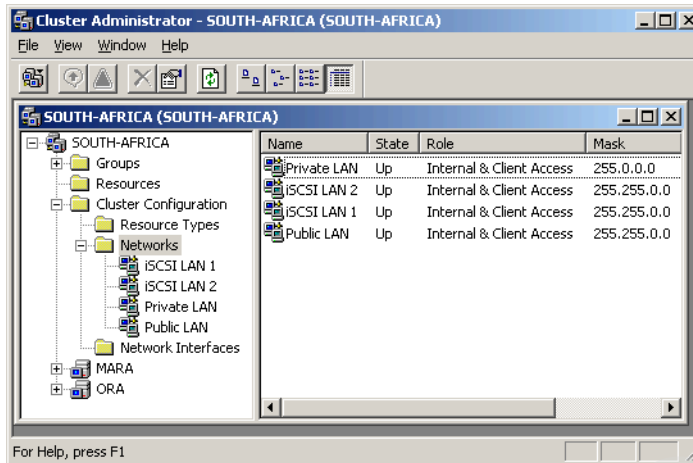

Figure 23-61 Network usage after installation
1. In Cluster Administrator, select **Cluster Configuration** → **Networks**. The Role column in Figure 23-61 on page 581 shows that all networks are currently used for both internal and client communication.